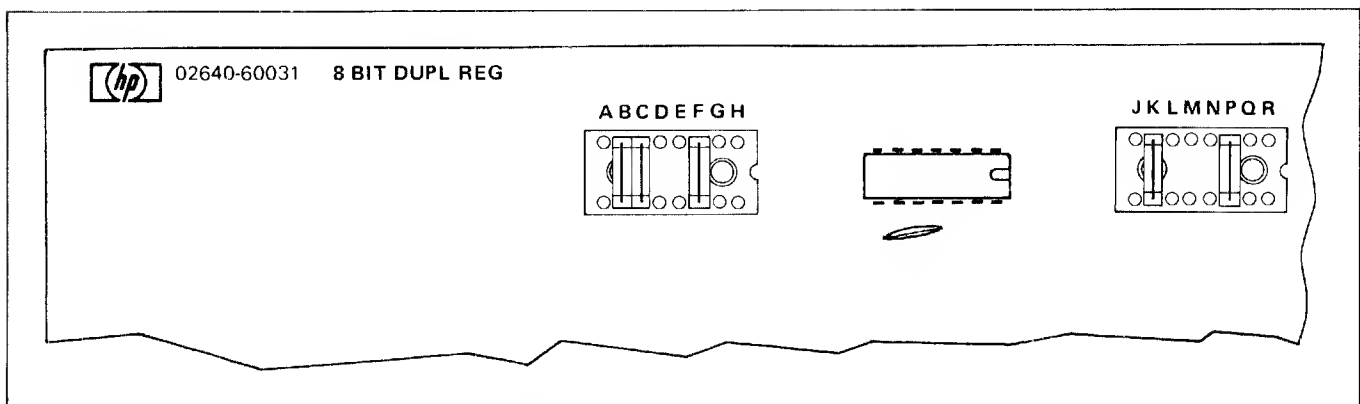

Figure 7-12. Terminal Duplex Register PCA Jumper Configuration
2. () Configure jumpers in Terminal Duplex Register PCA jumper sockets as shown in figure 7-12.